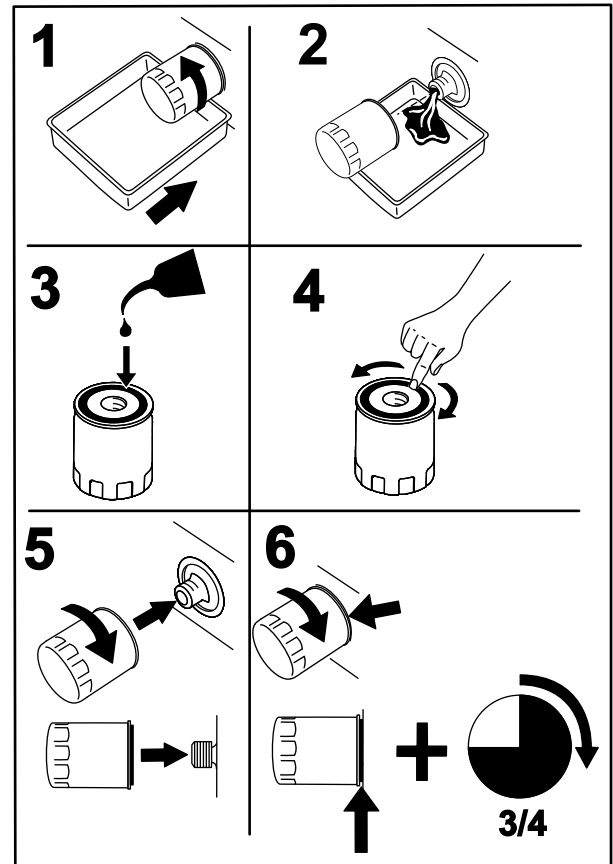

Figure 48
- Change the engine oil filter (Figure 48).